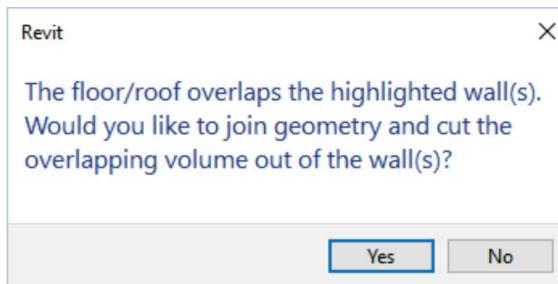

FIGURE 9-1.14 Join walls that overlap the new floor prompt
37. Click **Yes** for the prompt to join the walls that overlap the floor system (Figure 9-1.14).